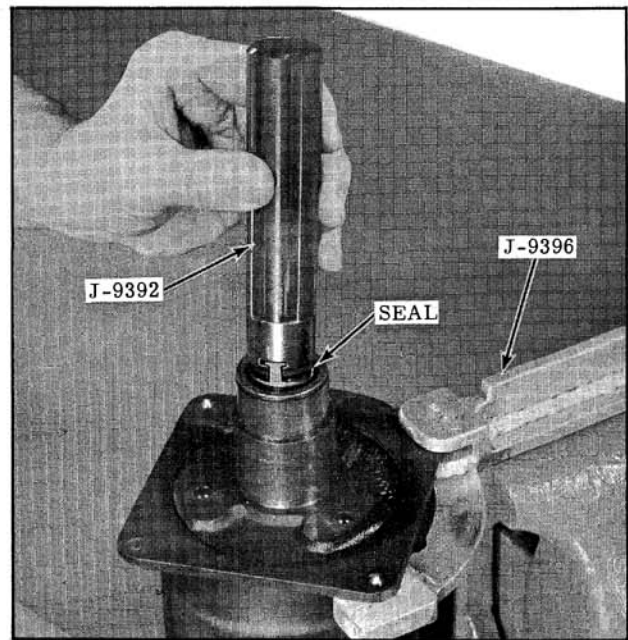

Fig. 14-115 Removing Seal
6. Insert Tool J-9392 on top of seal. Rotate clockwise and force tool downward until tool engages tangs of seal. Remove seal by lifting tool out of housing. (Fig. 14-115)